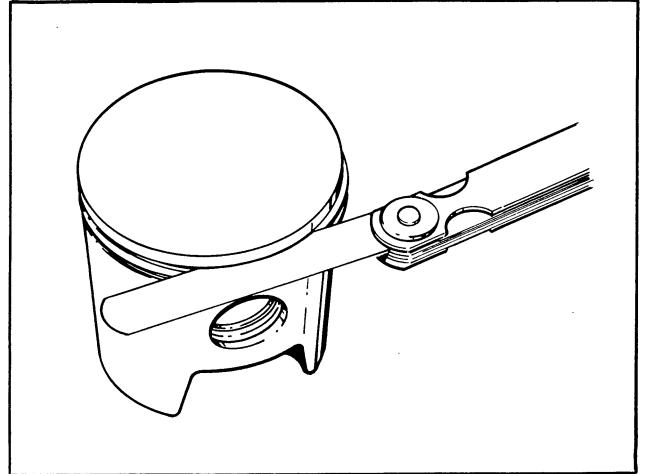

Figure 60 – Ring Side Clearance
- a. See Figure 60. Check the side clearance of the rings in the piston grooves using a feeler gauge. Side clearance should be .002-.004 in.